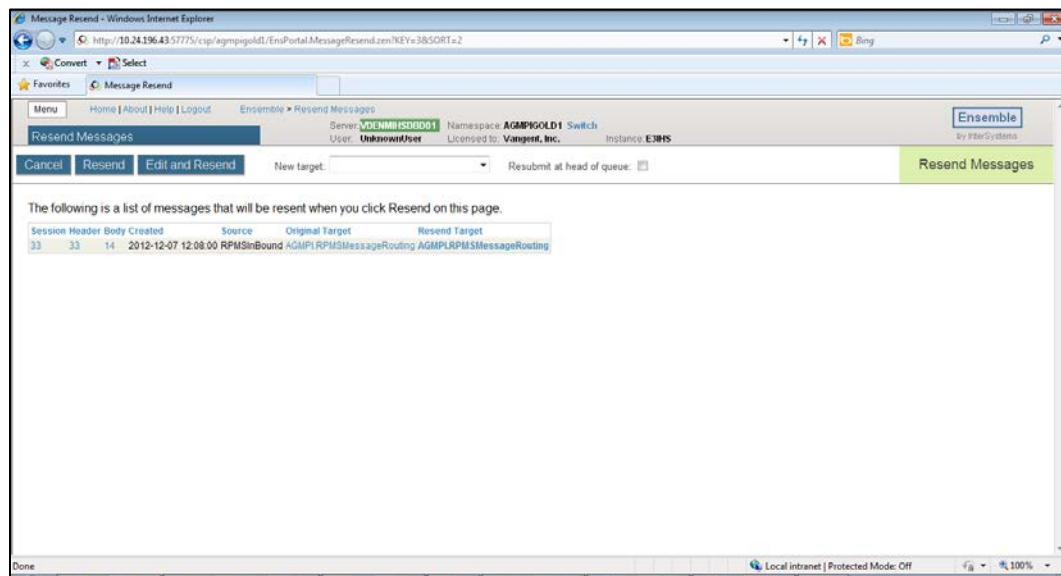

Figure 7-12: Resend Messages page
1. In the message list, check the check boxes next to the message(s) to be resent, and then click **Resend** to display the **Message Resend** page, as shown in Figure 7-12.